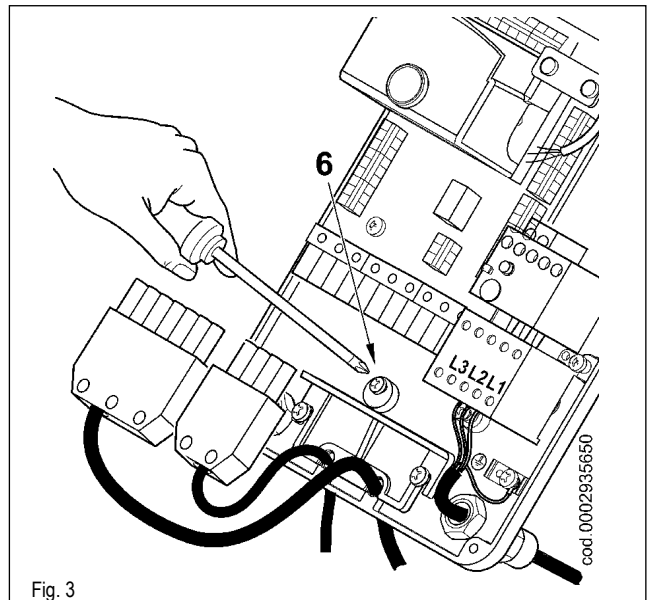

Fig. 3
- Reposition the cable float plate as in figure 3. Turn the cam (6) so that the float exerts sufficient pressure on the two cables, then tighten the screws that fasten the cable float. Finally, connect the two 7 and 4-pole plugs.
- To reclose the electrical panel lid, tighten the 4 screws (1) with a torque of about 5 Nm to ensure the correct seal.